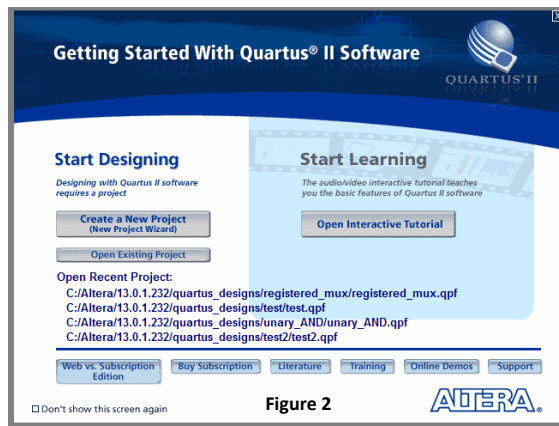

Figure 2
a) Launch Quartus II, which opens the screen of figure 2. Click **Create a New Project**, which leads to figure 3. *Note:* If Quartus II is already open, do **File > New Project Wizard** to get the screen of figure 3.